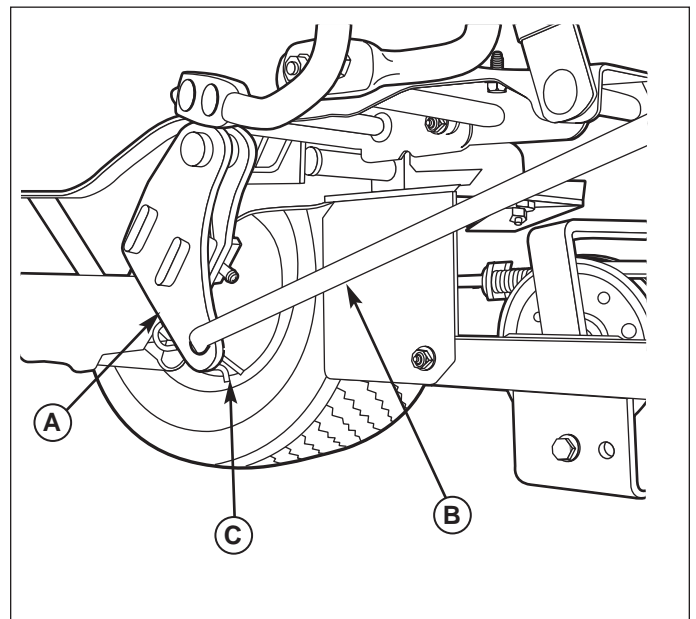

Figure 9. Install Lift Rod
3. Insert the rear of the lift rod (B, Figure 9) into the bottom of the lift lever (A). Secure with a clip (C).